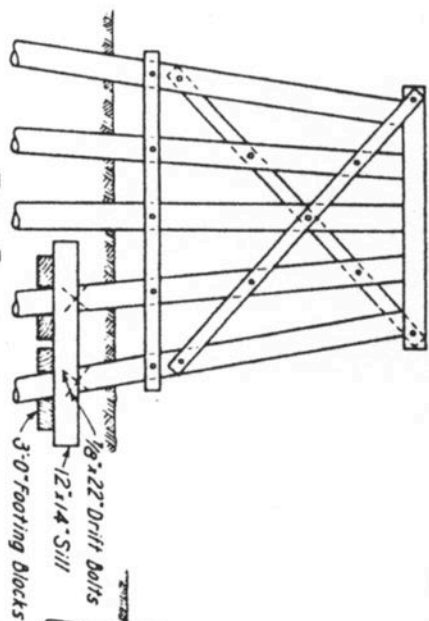

FIG. 2
2. When two or more adjacent piles require splicing, they shall be cut off and a short sill and portal frame bent (with same number of posts as the piles cut off) shall be installed, as illustrated in Fig. 2.